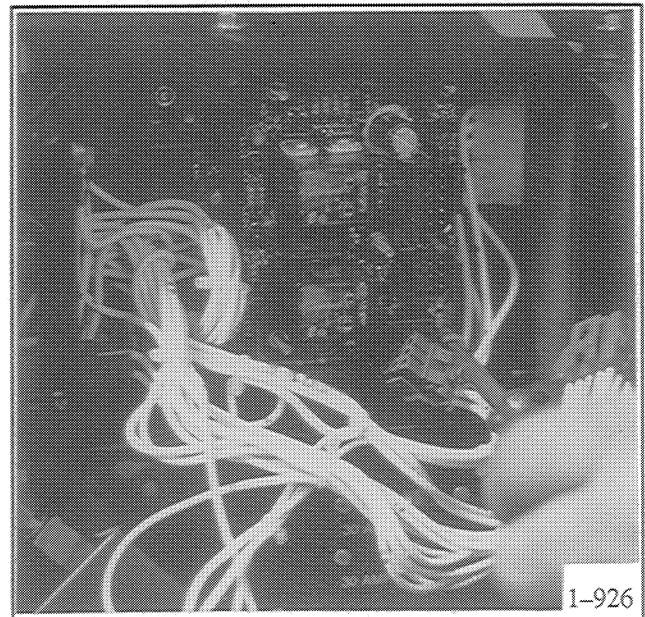

Figure 8–2. Removing Main Circuit Board
- 2c. Remove four nuts and lock washers using 5/16 in. nutdriver and remove main circuit board bracket. See Figure 8–3.